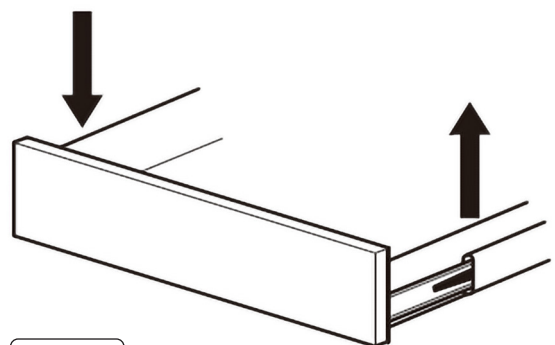

fig.6
5.6. REMOVING AND REPLACING DRAWERS (fig.6)